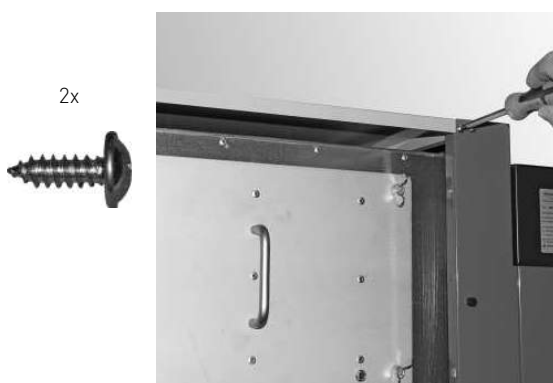
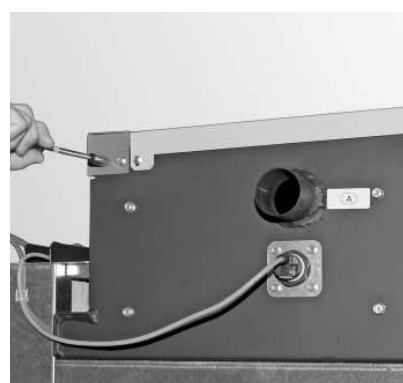

Fig. 55 Securing cover of integral fuel hopper at front with 2 self-tapping screws
Fig. 56 Securing reserve supply container cover at rear with 2 TT screws
- Fit cover of integral fuel hopper (part 20); secure with 2 self-tapping screws at front (Fig. 55) and Secure at the rear with 2 prefitted TT screws (M5 x 12) – Fig. 56.